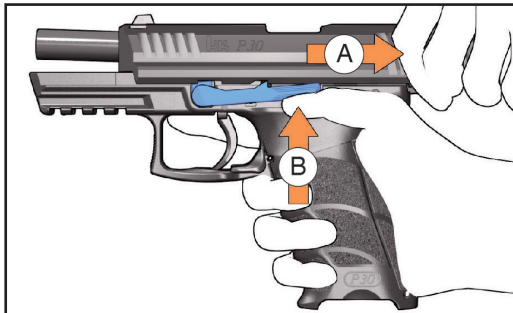

Figure 20 — Pull the slide back and lock it
2. With the magazine removed, pull the slide (A) all the way back and hold it there (see Figure 20).
3. Push the slide release (B) upwards to lock slide back.